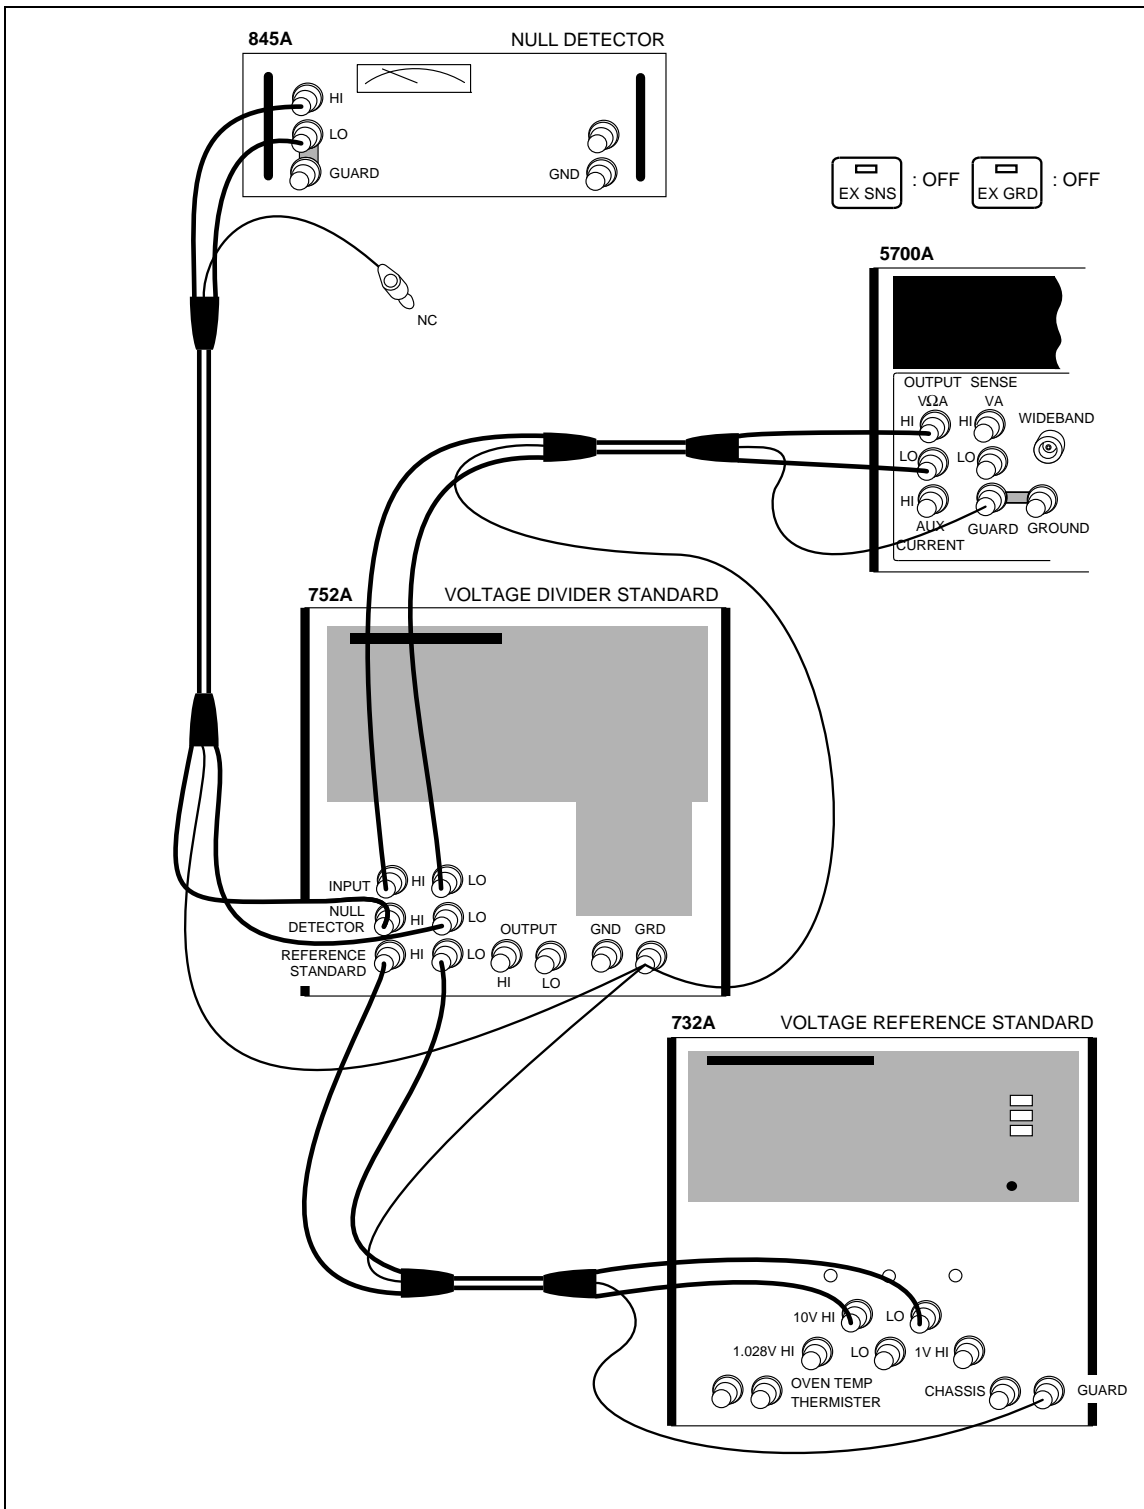

Figure 3-4. 220V DC Range Calibration Connections
7. Connect the 732A, 845A, and 752A in a 10:1 configuration as Figure 3-4 shows.
2. Connect the equipment as shown in Figure 3-4.